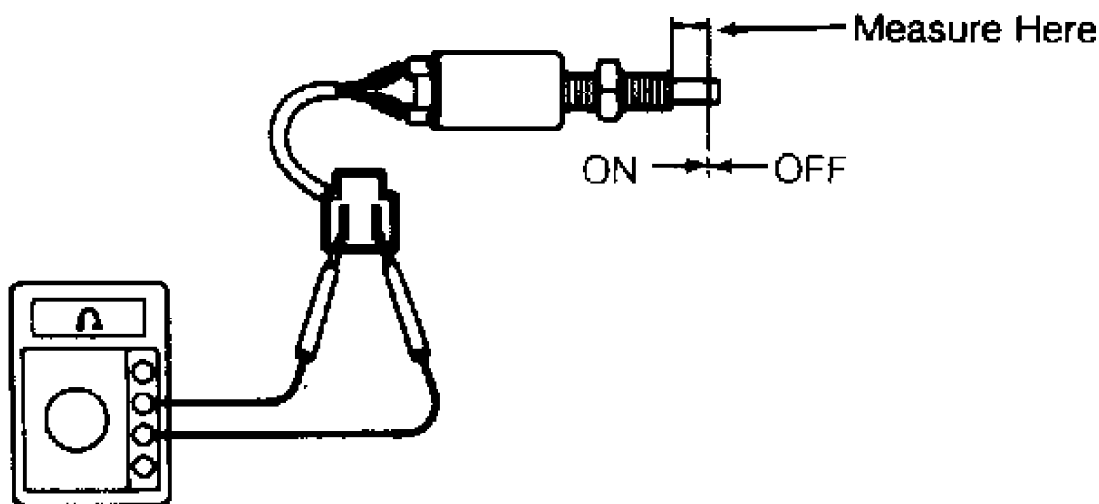

Fig. 3: Testing Clutch Start System Switch
- 2) On all models, if system is not operating correctly, check clutch start switch. With switch in ON (pushed) position, continuity should exist. With switch in OFF (free) position, continuity should not exist. See CLUTCH SWITCH PLUNGER CONTINUITY SPECIFICATIONS table. See Fig. 3. Replace or adjust switch as necessary.
(1) - Distance from threaded end of switch where continuity changes. See Fig. 3.